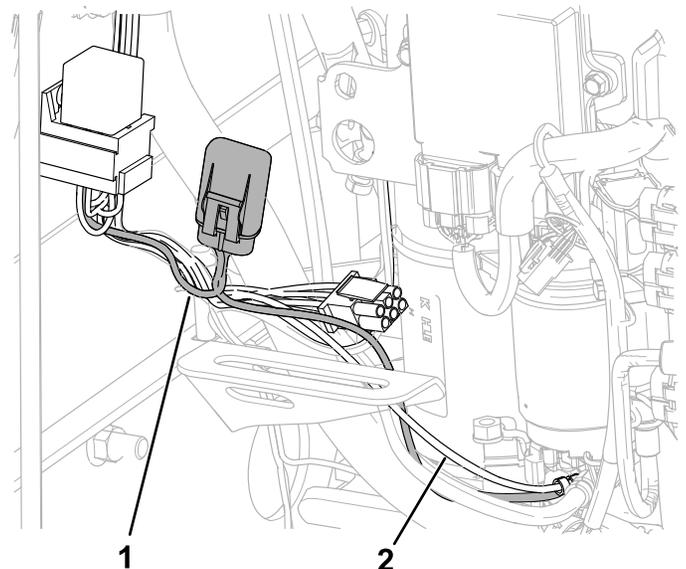

Figure 9
7. Following the existing wire harness, route the new wire harness to the starter post (Figure 9).